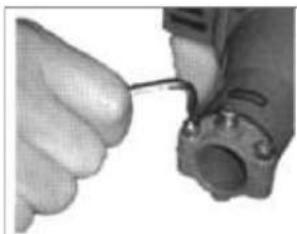

Fig.E1
2. Use the 4mm Allen wrench (Hex-key) to loosen the tube clamp as shown in fig.E1